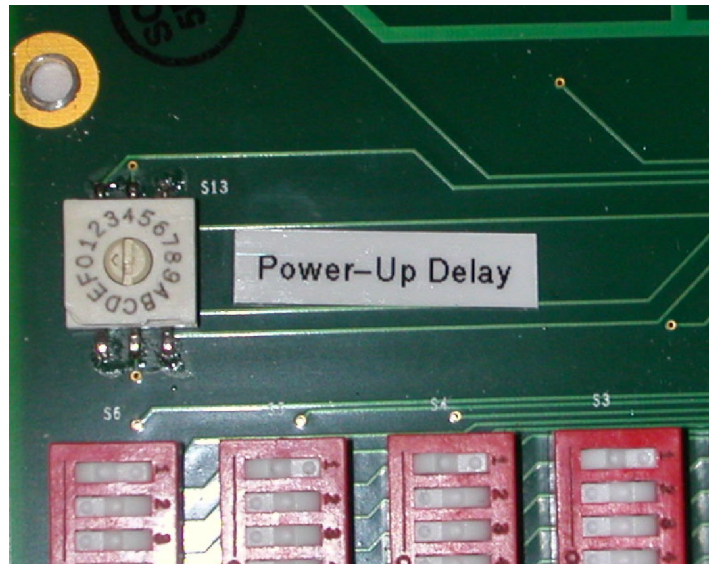

Figure 4: S13 Power-Up Delay Location
1. Use a surface mount soldering station to install the Power-Up Delay hex switch, A2S13, in the S13 position on the main board as seen in Figure 4.
2. Add label saying “Power-Up Delay” by S13 as seen in Figure 4.